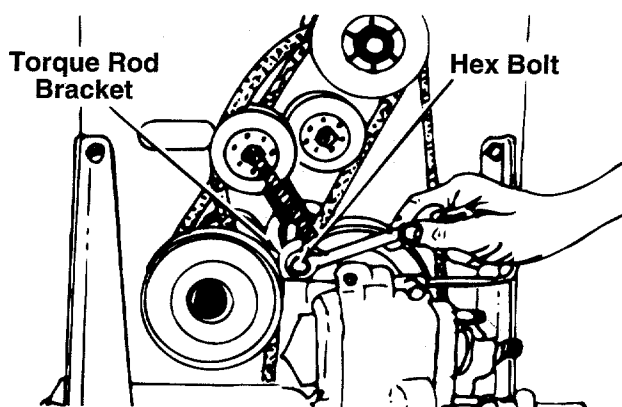

FIGURE 31.
4. Remove the hex bolt, nut and lock washer at the torque rod bracket and transaxle. See figure 31.